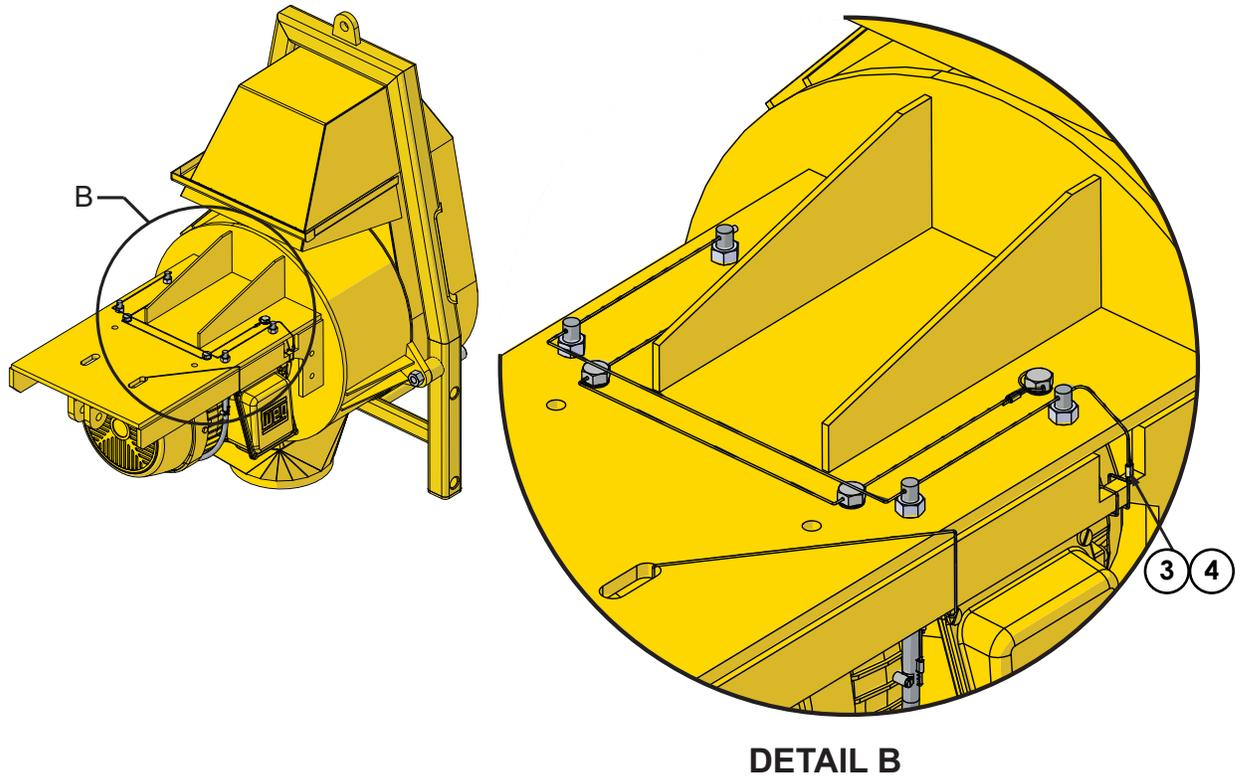

Figure 7: Safety securement on the U-bolts. See Table 1 on page 2 for items.
5. Add safety securement to the U-bolts by adding safety wire (M21-2000-010) through drilled holes in threaded end of the U-bolts (DT33138) as shown on Figure 7. Crimp with ferrules (M19-3006-010). Attach the other end of the safety wire through the blower motor mount cutout. Ensure minimal slack in safety wire.